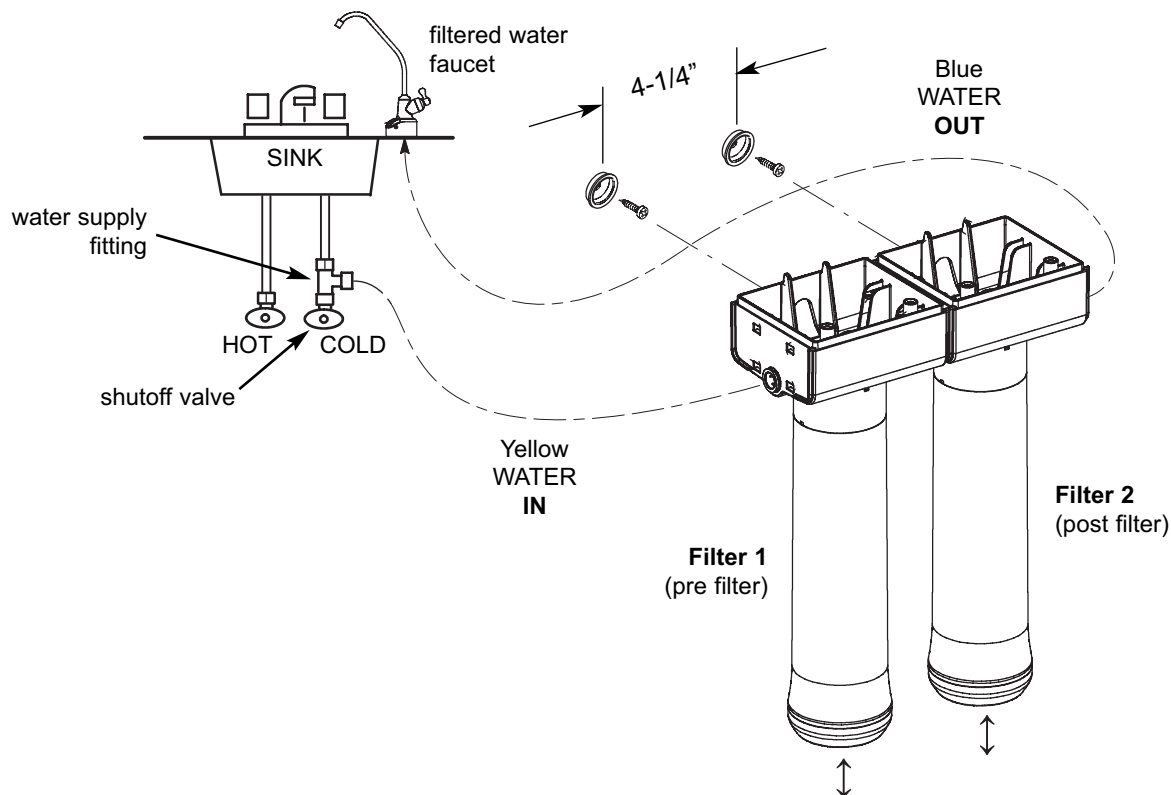

Fig. 1
1. Allowing some slack, measure and cut a length of 3/8" tubing to connect between the supply fitting and the filter system inlet, Figure 1. Cut the ends of the tubing square.
3. Repeat steps 1 and 2 to connect tubing from the faucet to the filter system outlet, Figure 1.